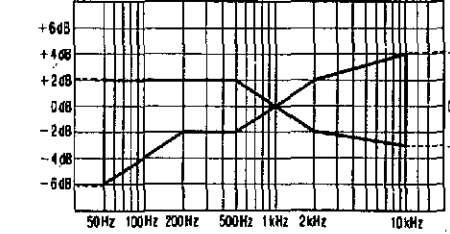

Fig. 13
- Play back the test signals just recorded and verify that the levels at the test frequencies fall in the ranges specified in Fig. 13 with respect to the reference signal level.